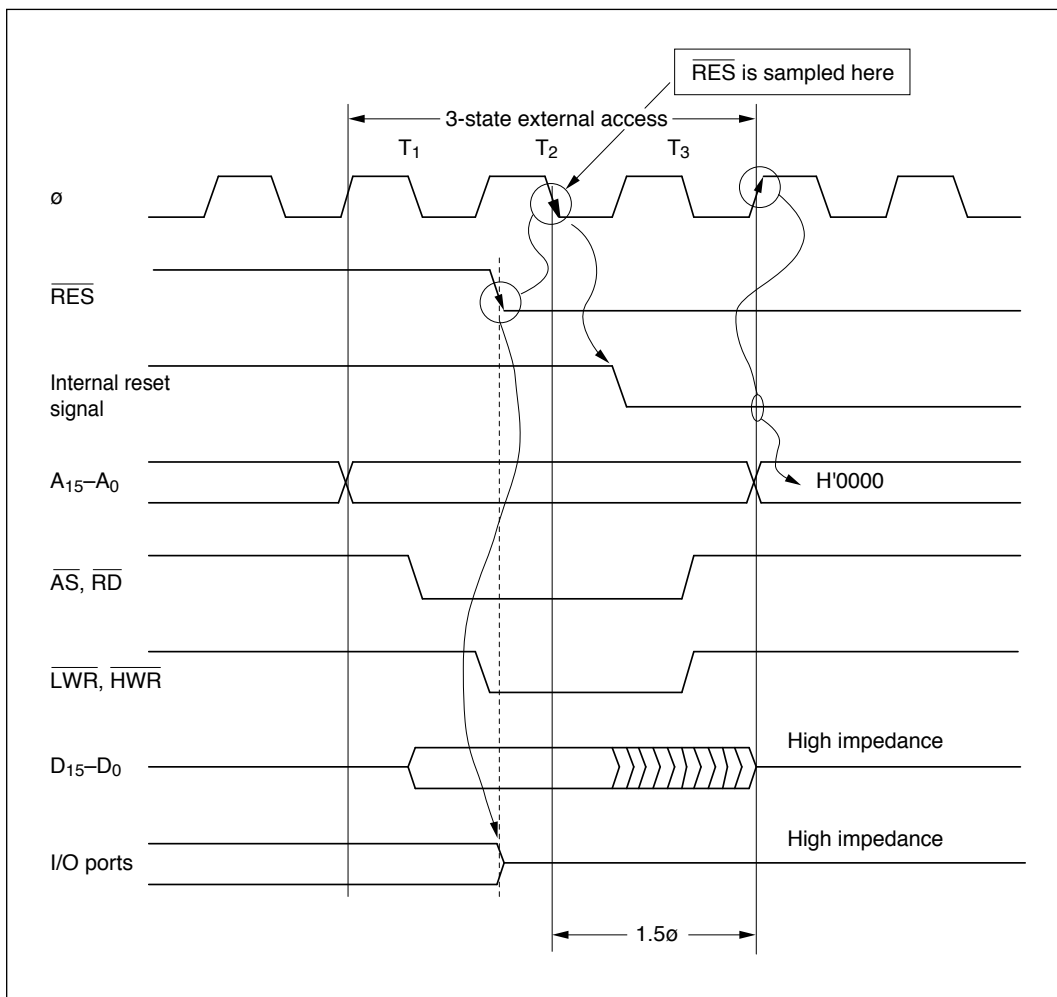

Figure G-1 Reset during Three-State Access (Modes 1 and 6)
(1) Modes 1 and 6: Figure G-1 is a timing diagram for the case in which $\overline{\text{RES}}$ goes low during three-state access in mode 1 or 6. As soon as $\overline{\text{RES}}$ goes low, all ports are initialized to the input state. $\overline{\text{AS}}$, $\overline{\text{RD}}$, $\overline{\text{LWR}}$, and $\overline{\text{HWR}}$ go high, and D_{15} to D_0 go to the high-impedance state. A_{15} to A_0 are initialized to the low state 1.5 system clock cycles (1.5 ϕ) after the low level of $\overline{\text{RES}}$ is sampled.